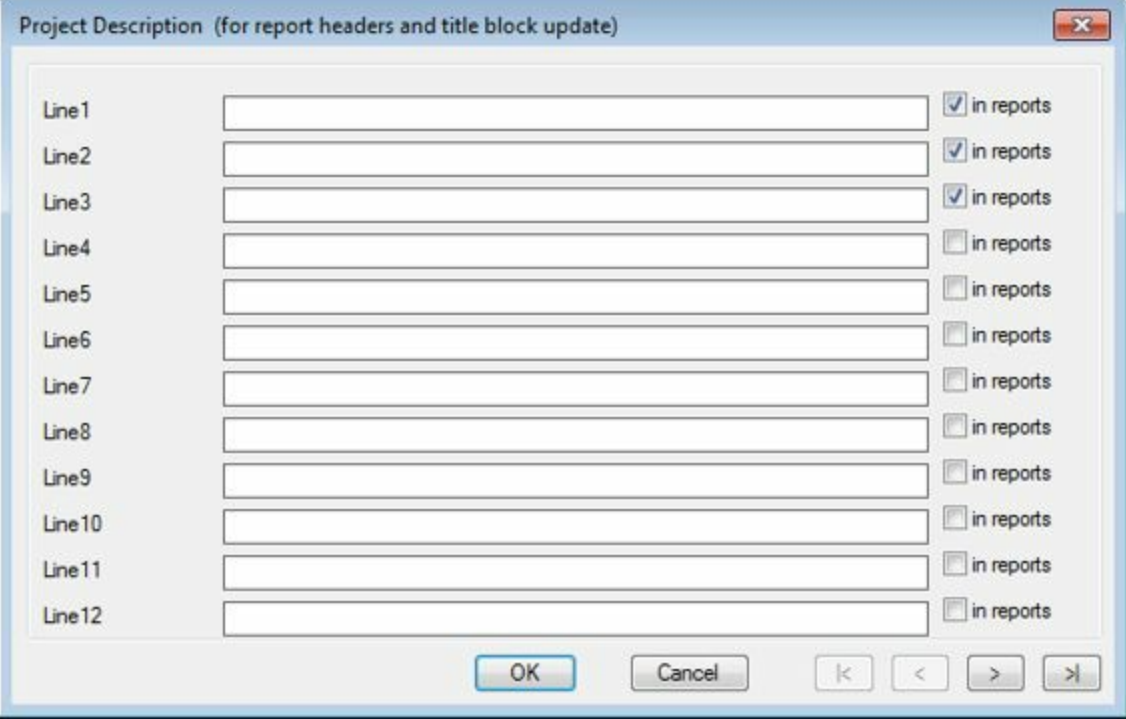

Figure-7. Project Description dialog box
- Click on the **Descriptions** button to specify the description of the Project. The **Project Description** dialog box will be displayed as shown in Figure-7.